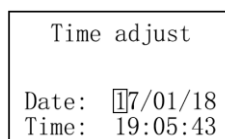

Fig. 17 Time setting interface
- 2) **Time setting:** After entering the main menu (with the second-level password), select "5. Time adjustment" with "▲" or "▼", and the setting interface is shown in Fig. 17. Start time setting from "Date", increase or decrease the number in the range of 0-9 with "▲" or "▼", and press OK after setting and also proceed with the next setting. After setting the last digit of date, the system will automatically jump to "Time" setting, and you may press OK after time setting to return to the main menu interface.